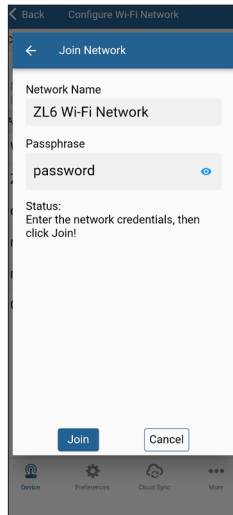

Figure 19 Configuration of personal secured network
- Measurements Tab (Figure 19):